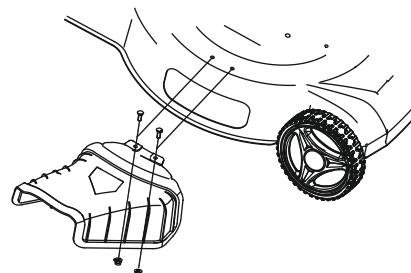

Fig. 5
1. Insert bolts into the deck and side discharge hole with 2 x M6 x20 flange bolts and fasten it with 2 x M6 screw flange nuts. Fig. 5